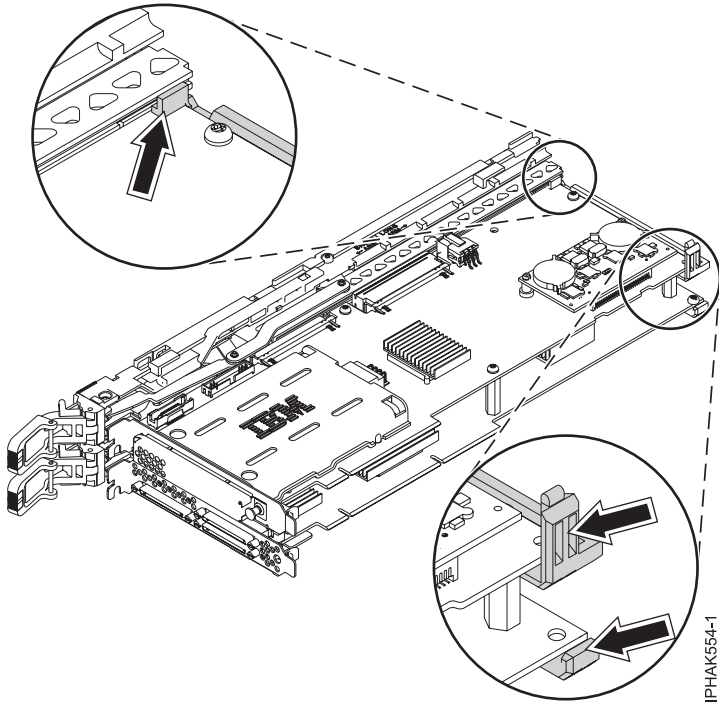

Figure 56. Placing the double-wide adapter in the cassette assembly
- b. Attach the notches of the rear arms of the cassette assembly at the rear end of the double-wide adapter. See Figure 56 on page 73. When you attach the upper, right part of the cassette assembly to the adapter, you might need to adjust the slider to set it in place.